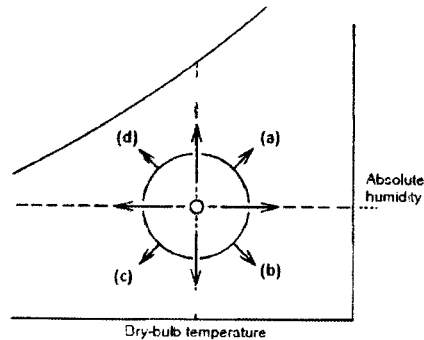

Figure Q2(a) / Rajah Q2(a)
- (a) **Figure Q2(a)** shows the summary of humid air changes state on the psychrometric chart. List all the moist air changes state on the psychrometric chart in **Figure Q2(a)**.